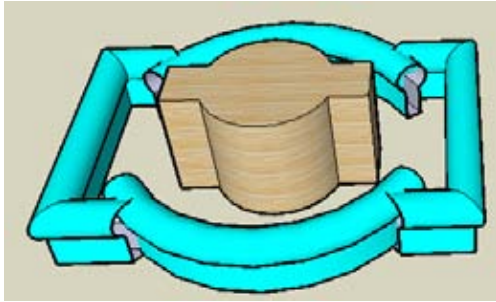

Figure 2-43
2. Use the top face as the Follow Me path and extrude the Follow Me face around. The result is shown in Figure 2-43: the offset path is not smooth.